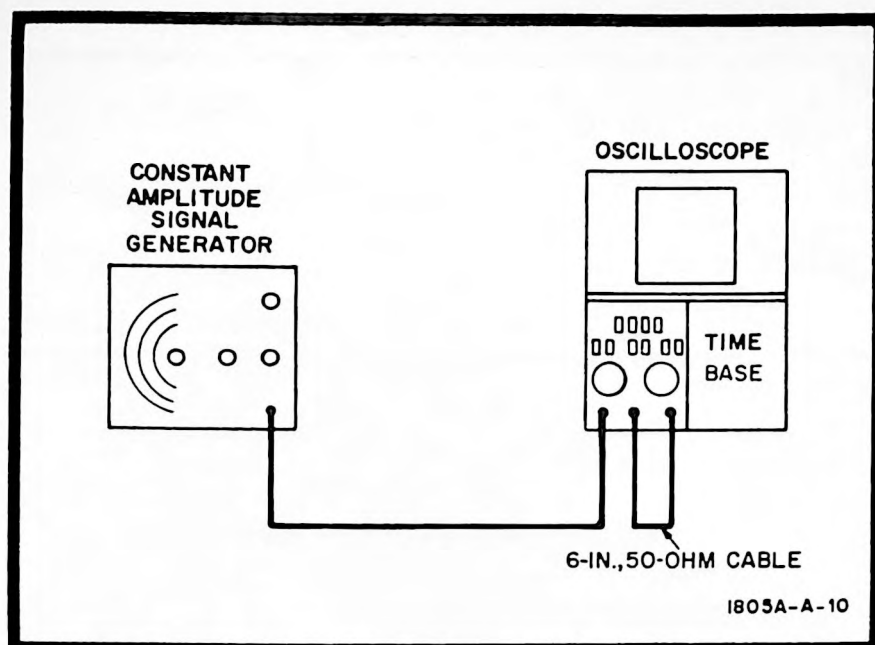

Figure 5-7. Vertical Output Amplitude Test Setup
a. Connect equipment as in figure 5-7.